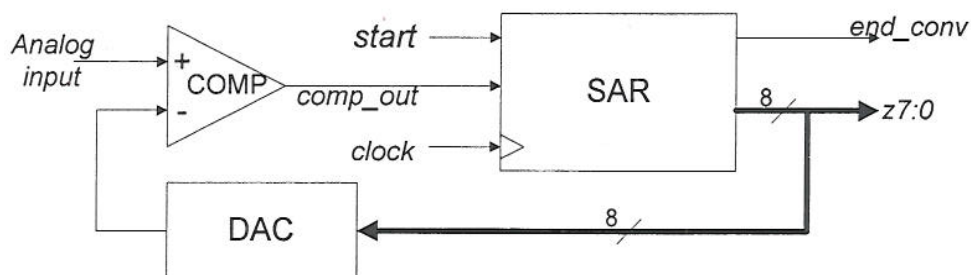

Figure 6.1
6. Figure 6.1 shows the circuit for an 8-bit successive approximation A/D converter. It consists of three components: a voltage comparator, an 8-bit D/A converter and a successive approximation register (SAR). The SAR operates synchronously with the rising edge of *clock*. A conversion sequence begins on the rising edge of clock after the signal *start* goes high. At the same time, the *end\_conv* signal should go low indicating that the SAR output *z7:0* is not valid. Then after 8 clock cycles, the converted digital output on *z7:0* becomes valid and the *end\_conv* signal returns high.